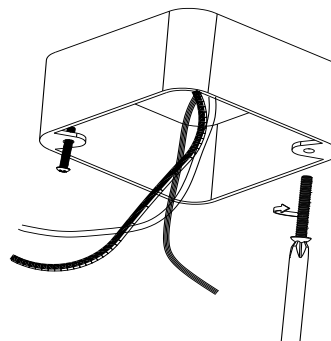
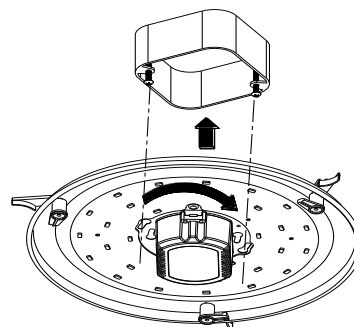

Fig. 2
Fig. 4
3. Install the electrical box screws in the junction box (figure 2).
5. Put the fixture plate across the screw of the lock in figure 2, then rotate fixture plate clockwise and lock it tightly with the screw lock (figure 4).